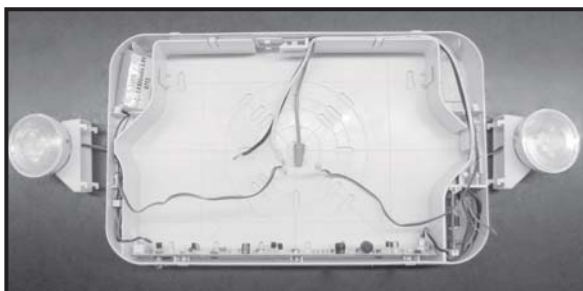
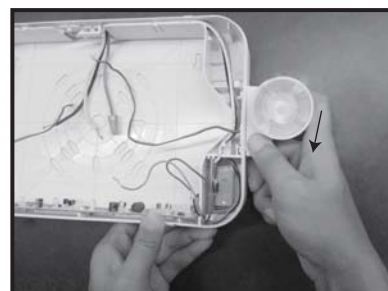

Figure 1
Figure 2
6. Feed blue and yellow lamp head wire through side lamp head mounting hole (Fig 1). Attach first lamp head to housing by aligning tabs on lamp head assembly to lamp head mounting slots on frame of housing (Fig 2). Gently push lamp head down toward bottom of housing to lock into place. An audible click should be heard. Repeat to install remaining lamp head.
8. Feed blue and yellow lamp head wire through side lamp head mounting hole(Fig 1). Attach first lamp head to housing by aligning tabs on lamp head assembly to lamp head mounting slots on frame of housing(Fig 2). Gently push lamp head down toward bottom of housing to lock into place. An audible click should be heard. Repeat to install remaining lamp head.
8. Feed blue and yellow lamp head wire through side lamp head mounting hole(Fig 1). Attach lamp head to housing by aligning tabs on lamp head assembly to lamp head mounting slots on frame of housing(Fig 2). Gently push lamp head down toward bottom of housing to lock into place. An audible click should be heard.